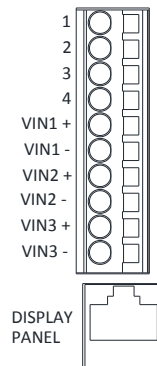

Figure 2: Input/output Terminal Block
- Install one of the wires from the Cylinder Low-Pressure Switch or from the Discharge Pressure Switch to the terminals marked “1” and the other wire to the terminal marked “2”. See Figure 2.
- Install one of the wires from the High Temp Sensor or the Cylinder Low-Pressure Supervisory Switch to the terminal marked “3” and the other wire to the terminal marked “4”. See Figure 2.
- The MSRS Unit has 3 diode-protected inputs but only one power source is needed to operate the MSRS and should be connected to **V IN1+** and **V IN1-**. See Figure 2.
- When connecting more than one pre-engineered cylinder supervisory pressure switch to the MSRS Unit, connect all the supervisory pressure switches in series. Connect the leading switch wire to Terminal marked “1” and the trailing wire of the last pressure switch to Terminal marked “2” (See Figure 2).
- When connecting more than one Engineered System cylinder supervisory switch to the MSRS unit, connect all the cylinder supervisory switches in series. Connect the leading switch wire to Terminal marked “3” and the trailing wire of the last pressure switch to Terminal marked “4” (See Figure 2).